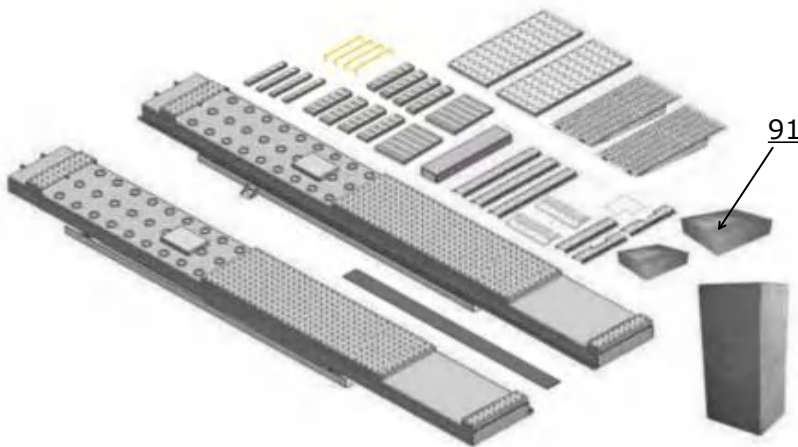

Fig. 8
2.1, Parts for on surface installation (see Fig. 8)